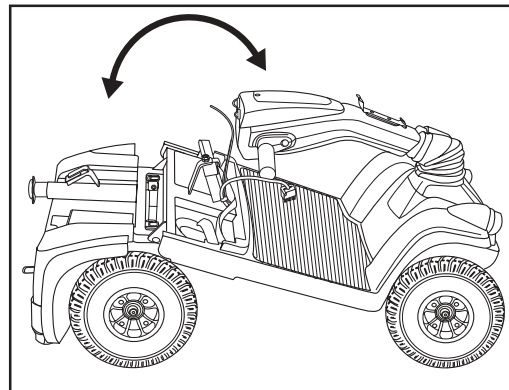

Figure 17. Frame Positioning
2. Push back on the seat post to pivot the PMV's rear section rearwards until the rear section is standing vertically on its bumper. See figure 17.
3. Holding the seat post, slowly pivot the rear section forward until the curved locking brackets are fully connected onto the top rear pegs. See figure 17.